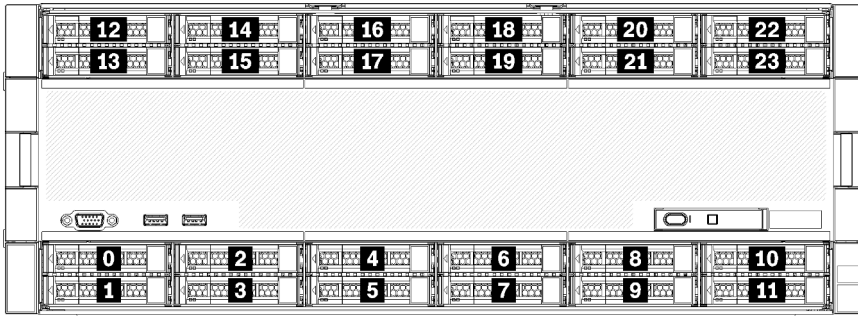

Figure 9. Drive bay locations
- Top two drives support SAS, SATA, or NVMe interface drives (Lenovo AnyBay). The server can support up to 12 NVMe drives, depending on the server configuration. The NVMe-capable drive bays are the even-numbered bays as shown in Figure 9 “Drive bay locations” on page 20.